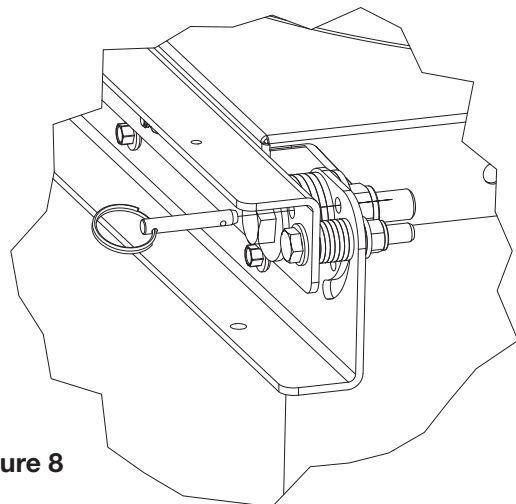

Figure 8
12. To lock hinge in closed position, insert detent pin or 1/4" - 20 x 2 1/2" should bolt and flange nut through the locking hole of the upper bracket and into the top locking hole of the lower bracket as shown in Figure 8. In a sidewall mounted unit, it is good practice to secure the unit closed either with self-drilling screws through the curb cap flange holes and into the curb or by installing a latch kit.